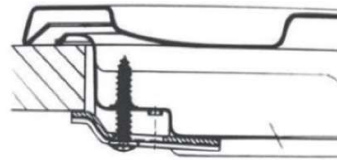

Figure 1.6 Hook position for H=30mm top
- If the kitchen cabinet cut-out dimensions are exact dimensions of the hob, follow the below method to fasten the hook. Use the hook enclosed in the "accessories set" (refer to Figure 1.6, 1.7, 1.8).